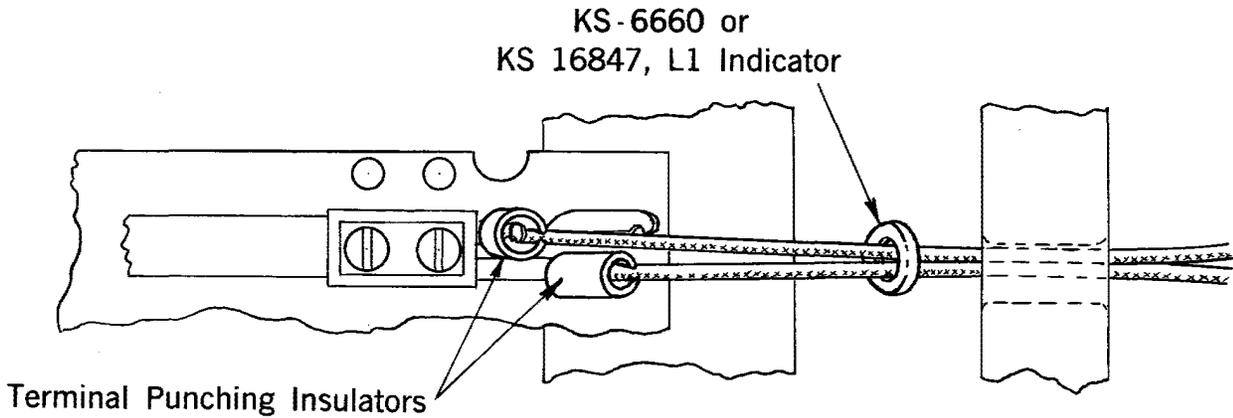

Fig. 27 – Indicator and Terminal Punching Insulators on Protector Mounting
15.05 Particular care should be exercised when working on or near certain special lines such as telegraph loops, fire and police alarms, radio broadcast lines, private lines, carrier circuits, etc. Serious trouble may result from a momentary cross or short circuit on some of these lines and, therefore, *not even a hand test set or a receiver should be connected to the terminals associated with lines of this nature.* These special lines should be designated on the vertical and horizontal side of the frame by means of the KS-6660 or the KS-16847, L1 indicators and protected at terminal strips and protector terminal punchings with insulators such as the No. 4 and No. 5 terminal punching insulators, and protected at the protector side with the appropriate guards (see 15.06, 15.07, and 15.09). The KS-6660 or the KS-16847, L1 indicators should be located between the fanning strip and the terminals. (See Figs. 27 through 30.)